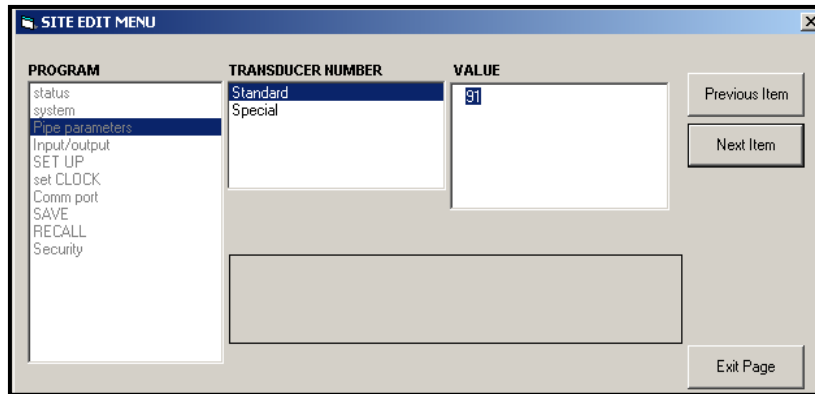

Figure 37: Pipe Parameters Option in Site Edit Menu
- a. Highlight and double-click on the desired option in the left pane. Figure 37 below shows the first entry (Transducer Number) in the *Pipe parameters* option. The title above the center pane lists the current entry, while the center pane displays the available selections for that entry.